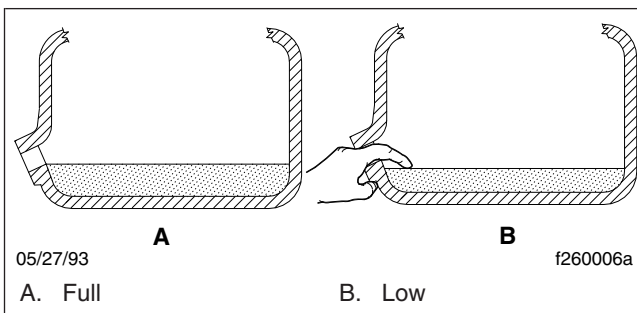

Fig. 1, Checking Transmission Fluid Level
6. Add fluid until it is level with the lower edge of the fill opening. See Fig. 1. If the transmission has two fill openings, add fluid to the level of both openings. See Table 1 for approved transmission lubricants. See Table 2 for Eaton Fuller